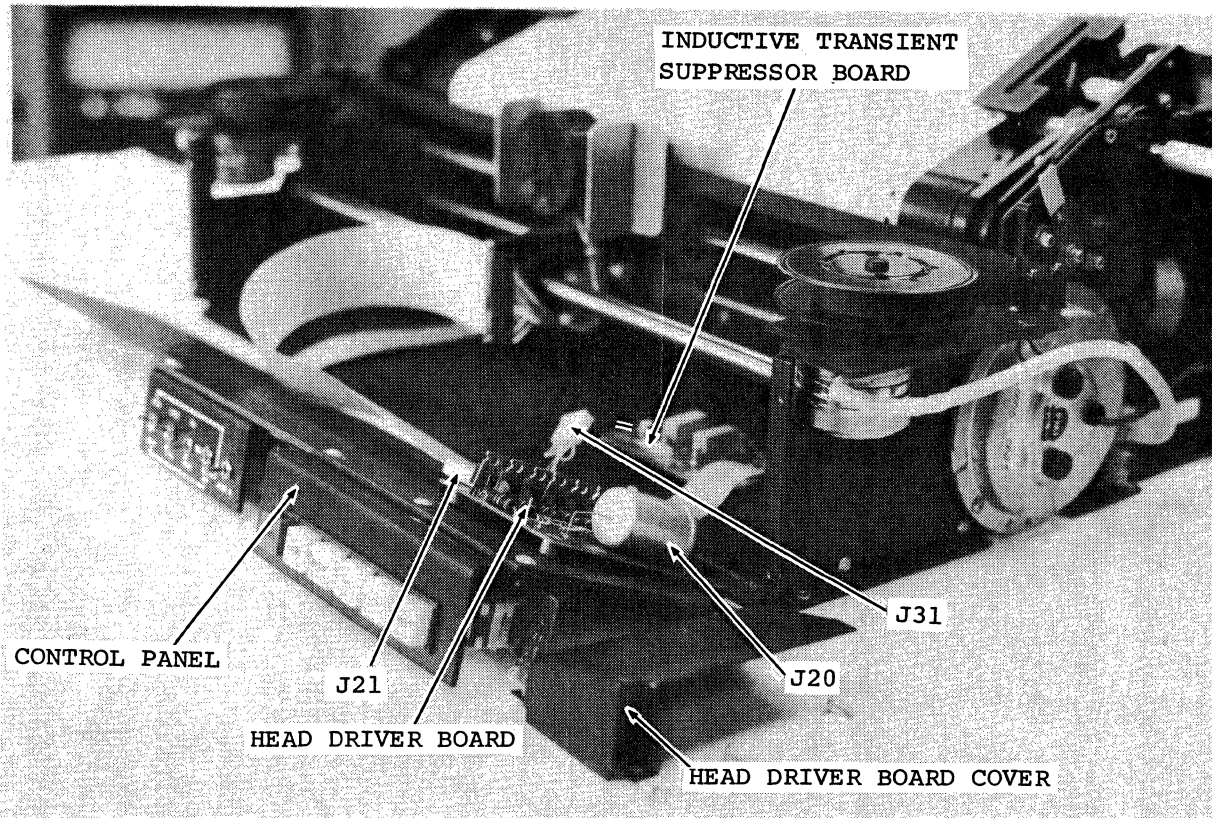

Figure 6-5. Front Panel
- (e) Remove the printhead cable assembly plug from connector J21 on the head driver board (see Figure 6-5).
- (c) Unscrew the five screws connecting the control panel assembly to the chassis. Remove right ribbon spool and use an offset screwdriver (see Figures 6-5 and 6-7).